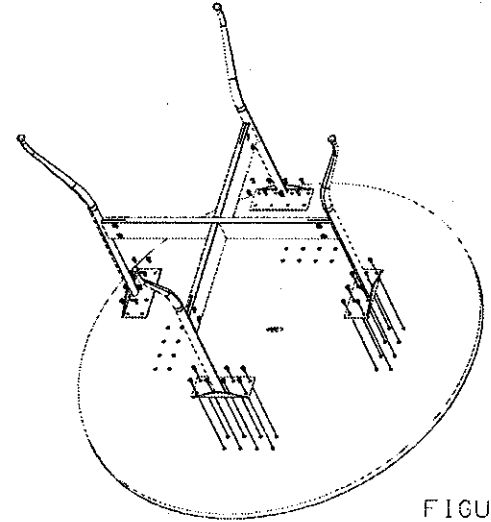

FIGURE 3
3. ASSEMBLE LEGS TO TABLE USING 1/4-20 SCREWS USING 3/16 ALLEN WRENCH. SEE FIGURE 3 OR 4.